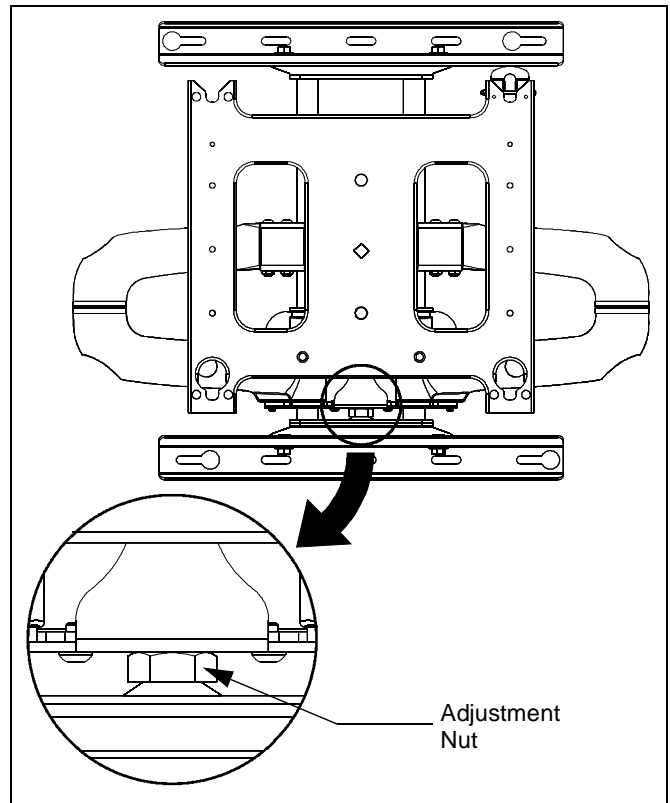

Figure 4
- Turn adjustment nut (see Figure 4) clockwise (CW) to lower the unit height, or